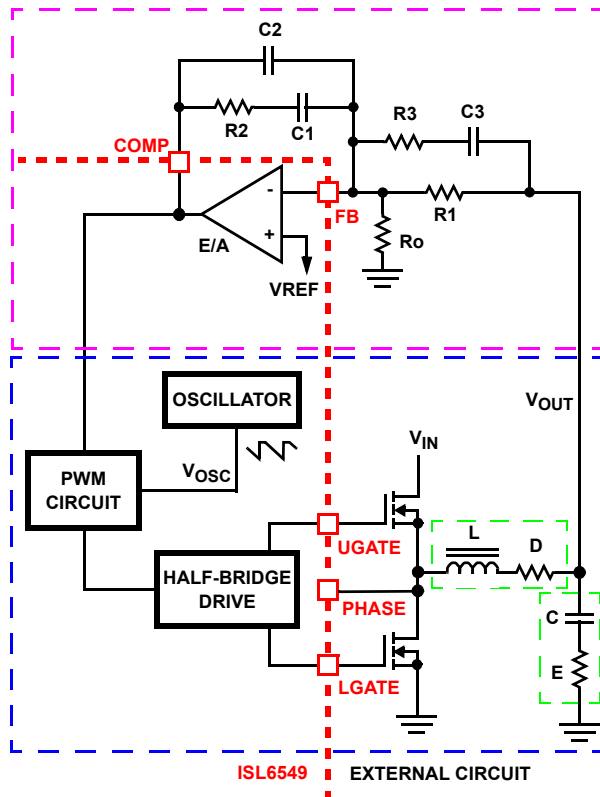

FIGURE 10. VOLTAGE-MODE BUCK CONVERTER COMPENSATION DESIGN
Figure 10 highlights the voltage-mode control loop for a synchronous-rectified buck converter, applicable to the ISL6549 circuit. The output voltage (VOUT) is regulated to the reference voltage, VREF. The error amplifier output (COMP pin voltage) is compared with the oscillator (OSC) modified saw-tooth wave to provide a pulse-width modulated wave with an amplitude of VIN at the PHASE node. The PWM wave is smoothed by the output filter (L and C). The output filter capacitor bank's equivalent series resistance is represented by the series resistor E.
The compensation network consists of the error amplifier (internal to the ISL6549) and the external R1-R3, C1-C3 components. The goal of the compensation network is to provide a closed loop transfer function with high 0dB crossing frequency (F0; typically 0.1 to 0.3 of FSW) and adequate phase margin (better than 45 degrees). Phase margin is the difference between the closed loop phase at F0dB and 180°. The equations that follow relate the compensation network's poles, zeros and gain to the components (R1, R2, R3, C1, C2, and C3) in Figure 10.
1. Select a value for R1 (1kΩ to 5kΩ, typically). Calculate value for R2 for desired converter bandwidth (F_0). If setting the output voltage via an offset resistor connected to the FB pin, R_0 in Figure 10, the design procedure can be followed as presented.